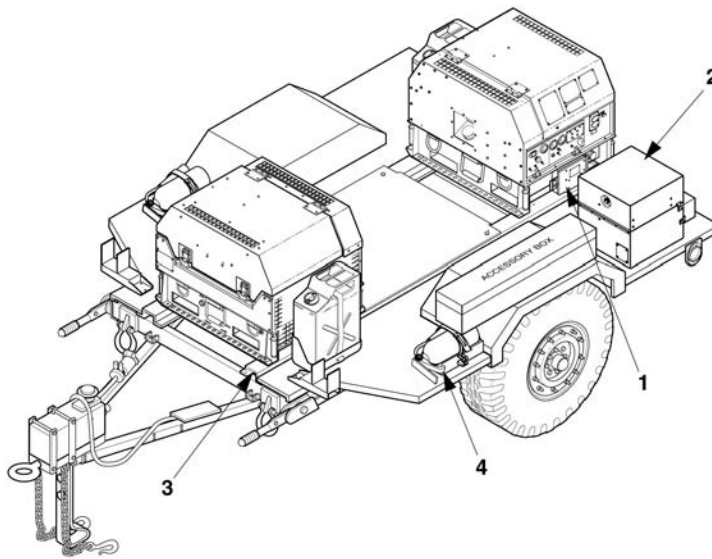

Figure 4-3. Unit PMCS Routing Diagram.
- b. Preventive maintenance is not limited to performing the checks and services listed in the PMCS table. Covering unused receptacles, stowing unused accessories, and other routine procedures such as equipment inventory, cleaning components, and touch-up painting are not listed in the table. These are things you should do any time you see that they need to be done. If a routine check is listed in the PMCS table, it is because experience has shown that problems may occur with that item. Take along tools and cleaning cloths needed to perform the required checks and services. Figure 4-3 is a routing diagram that shows the locations of the items to be checked/serviced. AN/MJQ-43 is shown but is applicable to AN/MJQ-42. The callout numbers on Figure 4-3 correspond to the numbers listed in the Item No. column of Table 4-1.